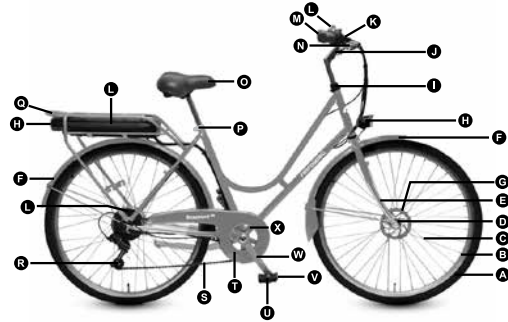

Fig. 5
**⚠ WARNING!** Use only genuine replacement parts, particularly for safety-critical components, installed by a professional bicycle mechanic. To keep your electric bicycle functioning well, the following routine maintenance lubrication is necessary (refer to Fig. 5):